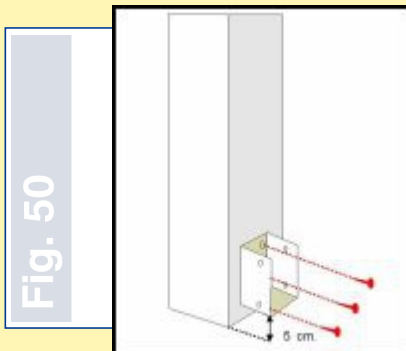

Fig. 50
- in compliance with the post symmetry axis and in a distance of 5 cm of the ground, fix the lower connector of the section (D) with the post. Perform the same activities in a case of another post keeping similar distances and the level - Fig. 50